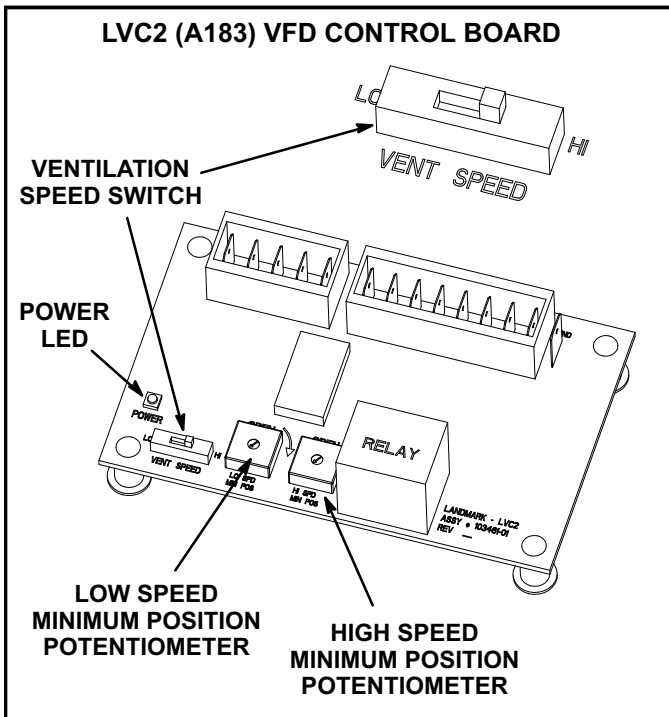

FIGURE 29
To save energy during ventilation, the blower speed can be set to low. This is accomplished by changing the ventilation speed switch on the VFD control board to "LO". See figure 29.
To maintain required minimum ventilation air volumes when the unit is in the occupied mode, two minimum damper positions must be set. A high and a low speed potentiometer are provided on the VFD control board to adjust minimum damper position. See figure 29.
- 5- Check the power LED on the board. See figure 29.
- 8- When LVC2 24VAC thermostat blower (G) input and 24VDC power are present, check the LVC2 low and high speed outputs. The LVC2 uses inverse logic to enable the blower; 1VDC will be read at the enabled blower speed terminal. See table 20.